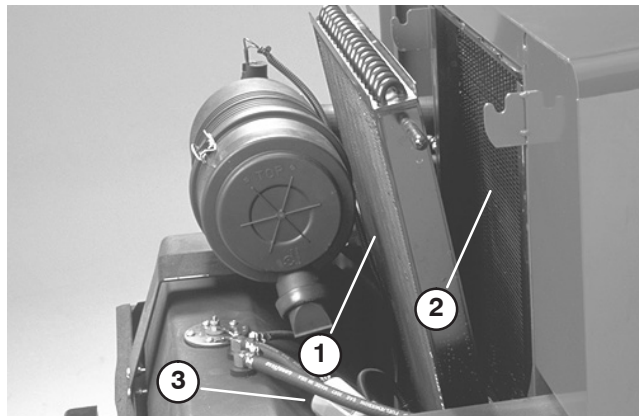

**Figure 36**
2. Remove knobs securing rear screen to frame and remove screen (Fig. 36).